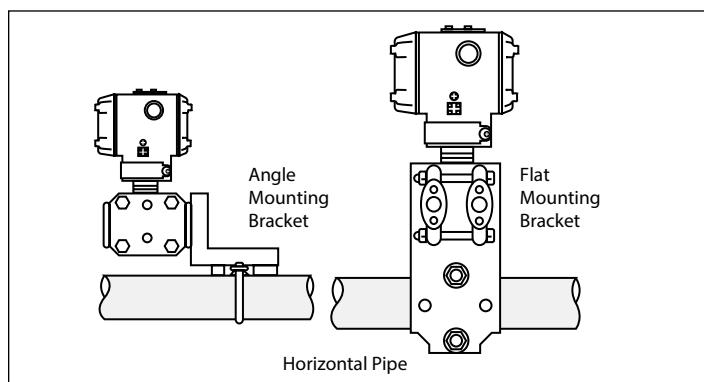

Fig 6: Transmitter Mounting
- How to level the transmitter using a spirit balance is shown in figure 6. To perform a Zero Trim after leveling, refer to Trim the Transmitter.